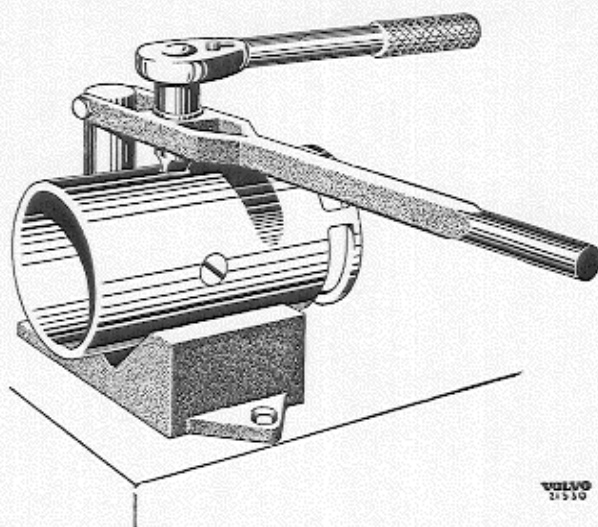

Fig. 49. Removing the field winding.
- Place the dynamo housing in a V-block as shown in Fig. 49. Press down at the same time as turning the wrench. As a rule, the screws are tightened very hard. Therefore ensure that the screwdriver head fits well into the slot in the screw and is sufficiently wide.